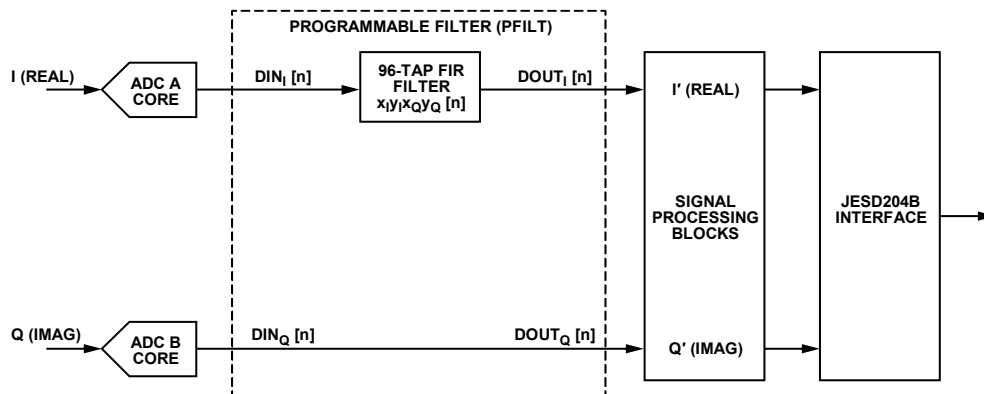

Figure 80. Real 96-Tap Filter Configuration
- Real 96-tap filter for on either I or Q channel (see Figure 80)